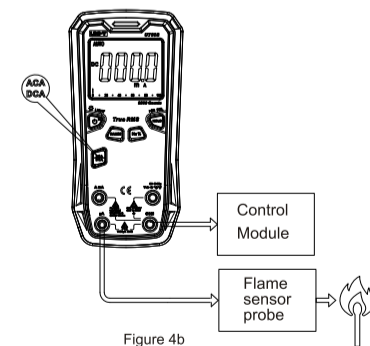

Figure 4b
- "uA" terminal can be used to heating system flame rectifier circuit detection (Figure 4b)